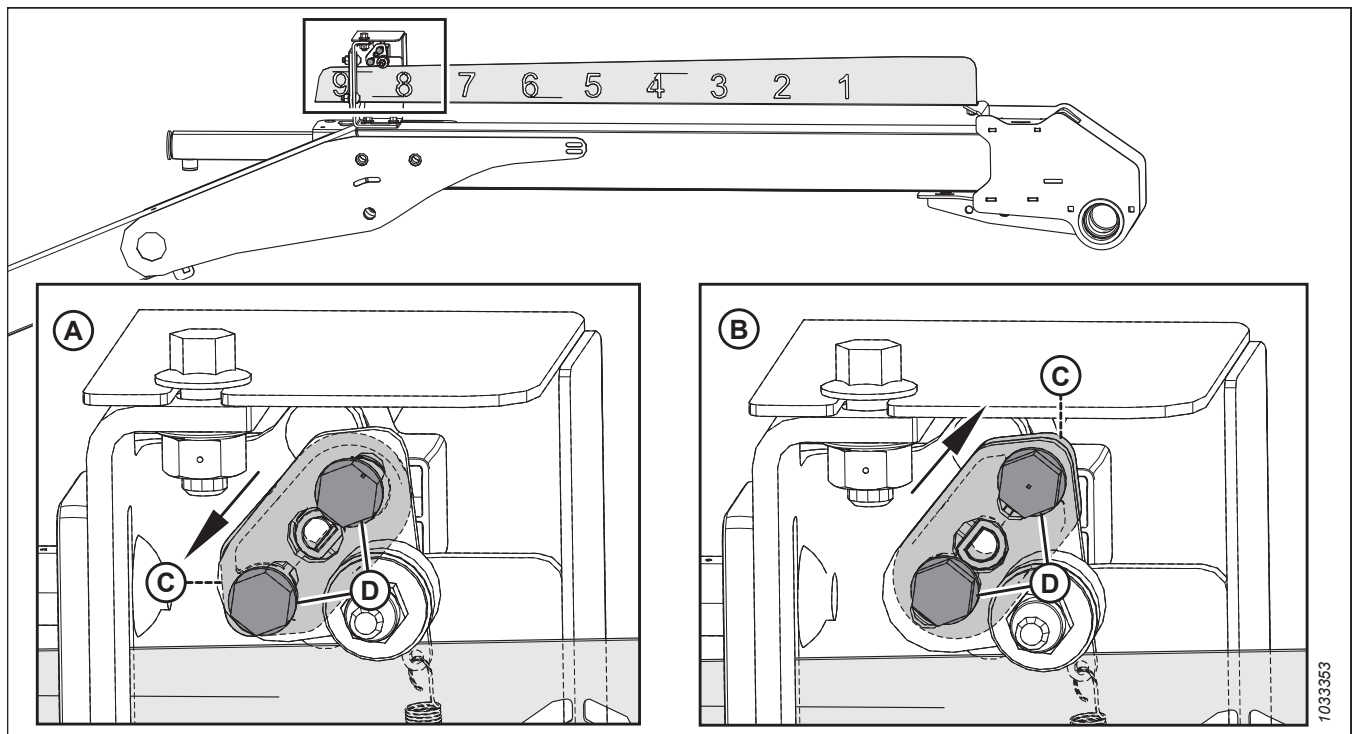

Figure 7.19: Sensor Arm Configurations
3. Check the orientation of sensor arm (C) and hardware (D). Ensure that the sensor arm is configured properly for your machine; refer to Figure 7.19, page 187.